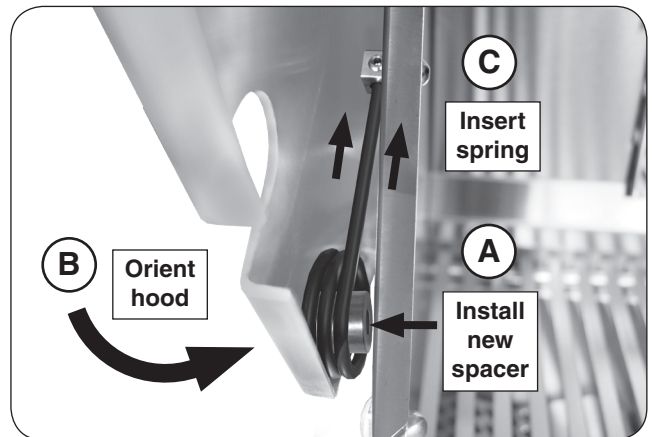

Fig. 3-3 Install hood
9. Ensure the spacers are attached to both sides of the hood cutouts (Fig. 3-3, A), and (using two installers) carefully orient the hood back onto the grill (Fig. 3-3, B). While situating the hood, carefully insert the new spring into the spring mount and secure with an Allen wrench (Fig. 3-3, C).